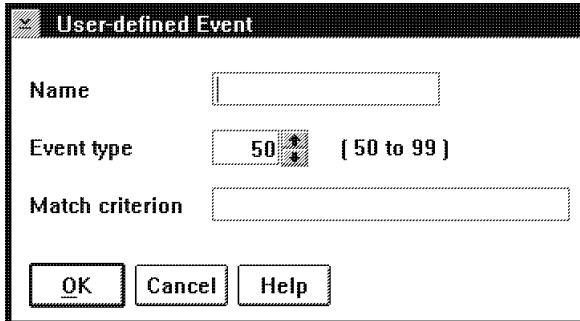

Figure 37. User-defined Event Window
1. Double-click mouse button 1 on the user-defined event node in the work process diagram. You see the User-defined Event window shown in Figure 37 on page 74.